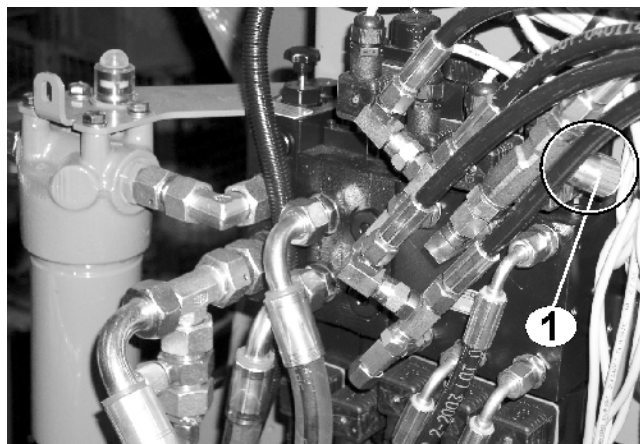

Fig. 38
- The speed for raising the Limiter is determined by the setting screw (Fig. 38/1) of the throttle valve on the hydraulic block. It is set by the factory so that the Limiter is slowly raised.